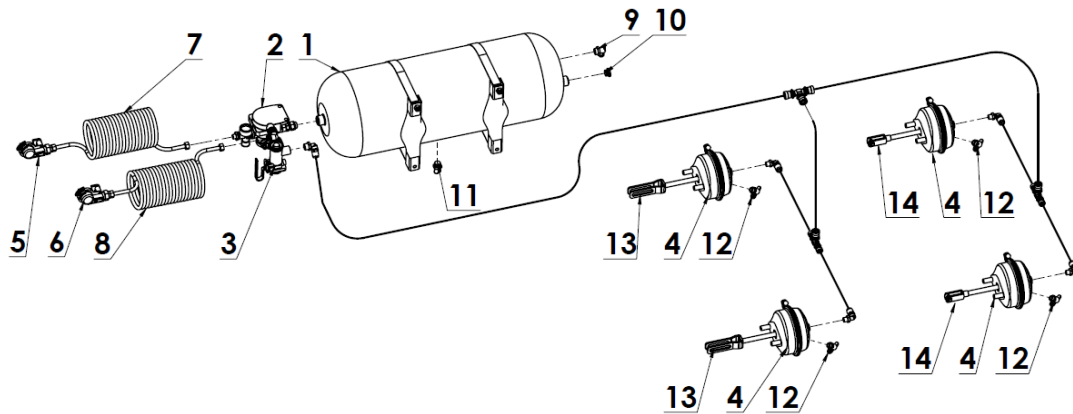

Figure 7 2-line pneumatic braking system - N267/2 Spreaders:
- 2-line pneumatic braking system: N267/2 (Figure 7),